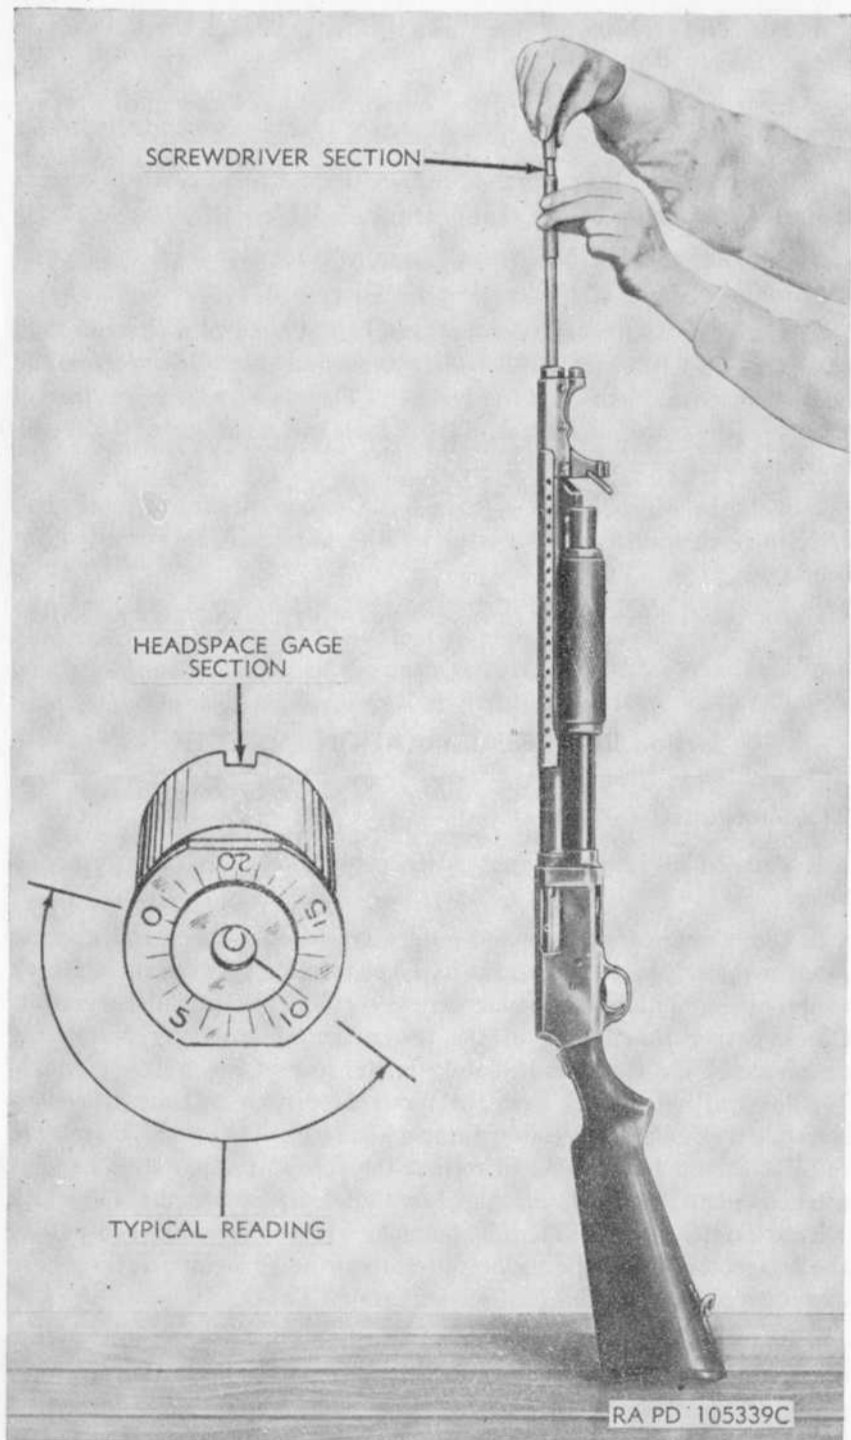

Figure 13. Gaging headspace with headspace gage 7314899.
b. Clean the shell chamber and face of bolt. Set headspace gage—7314899 (fig. 8) so that moveable core and body are indexed at zero and insert the gage in the chamber (fig. 13), with flat spots on the gage turned to clear the extractors. Close bolt and lock in firing position.